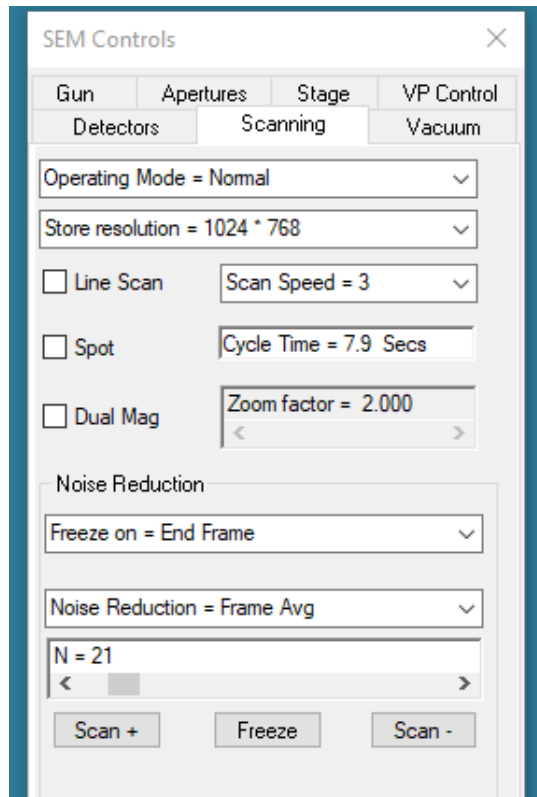

Figure 15
- During SEM observation and saving image, use **Scanning speed 2-3** (Figure 15)